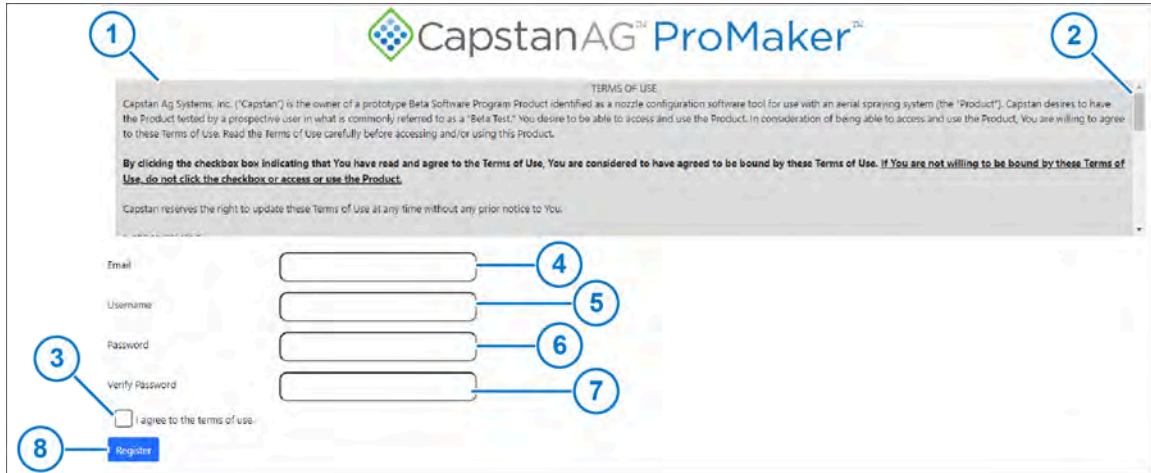

Figure 1: Sign Up Page
2. Read the **TERMS OF USE** (Figure 1, Item 1).
3. Use the slider bar (Figure 1, Item 2) to scroll through all of the information.
4. After you have read and understand the Terms of Use, put a checkmark in the box (Figure 1, Item 3) next to **I agree to the terms of use**.
5. In the box (Figure 1, Item 4) next to **Email** enter your email address.
6. In the box (Figure 1, Item 5) next to **Username** enter a username.
7. In the box (Figure 1, Item 6) next to **Password** enter a password.
8. In the box (Figure 1, Item 7) next to **Verify Password** enter the password again.
9. Select **Register** (Figure 1, Item 8).